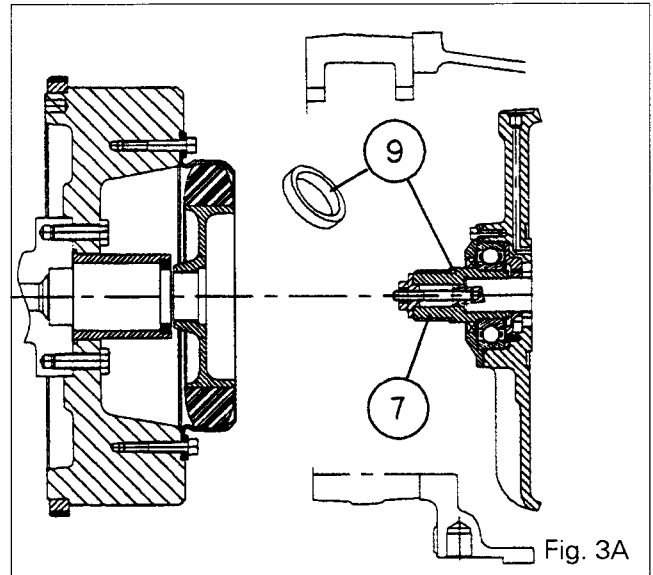
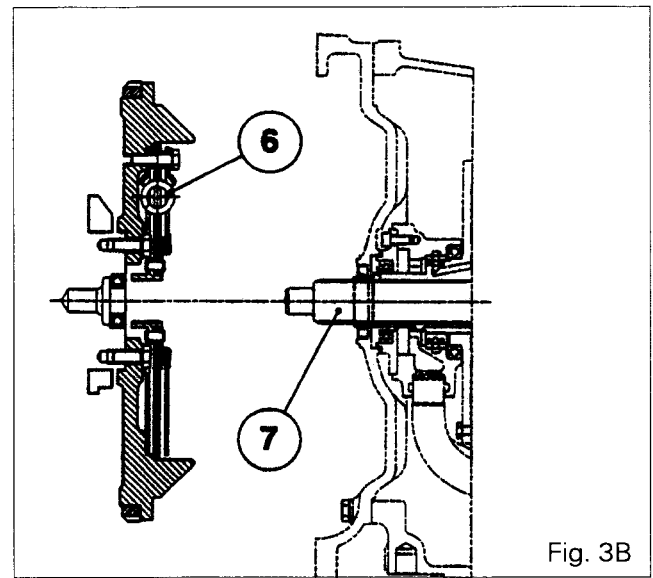

Fig. 3A
Fig. 3B
**Note:** Tractors of types 6170 to 6180 from serial number F058049 onwards and 6190 tractors (pressure-loaded clutch) are equipped with a damper (6) (Fig. 3B) different from the one fitted on the version with a spring-loaded clutch (Fig. 3A).
14. Lightly grease the splines on the shaft (7) (Fig. 3A and 3B) (grease of type GN + Molykote) and slide the bush (9) onto the shaft as shown in Fig. 3A (tractor with spring-loaded clutch and spacer between engine and gearbox).